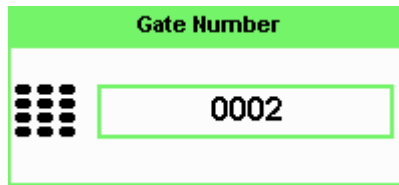

Figure 2-48 Gating number pop-up
- 8 Click  to display the **Gate Number** pop-up, see Figure 2-48, and use the numeric softkey pad to enter the required value in the **Gate Number** pop-up window.